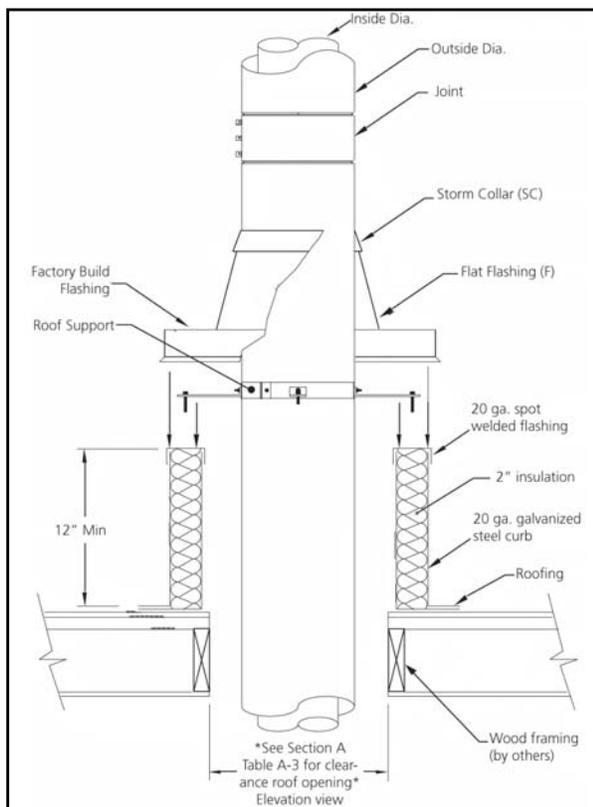

Figure D-1 - Flat Flashing Roof Assembly (F)
The Flat Flashing assembly (F) is primarily used for boiler or low temperature exhaust where a vent section passes through a roof made of combustible material. It is designed to be installed on a flat roof curb of a minimum height of 12" (See Fig. D-1). For some areas, greater heights may be needed according to local code requirements. The roof framing dimension must provide sufficient opening to comply with the minimum clearance from combustibles (see Section A for minimum clearance). The Roof Support (RS) is secured to the top of the roof curb using two 1/4" x 2 1/2" inch lag bolts in each support bracket. (See Section C for detail of Roof Support. The Flat Flashing (F) is then lowered on to the curb and the Storm Collar (SC) secured to the vent system section with the screws supplied. A Ventilated Flashing (VF) option is also available where air circulation between the system and the roof structure is wanted. The Ventilated Flashing option may serve as a ventilation outlet in small boiler rooms with gravity air supply.